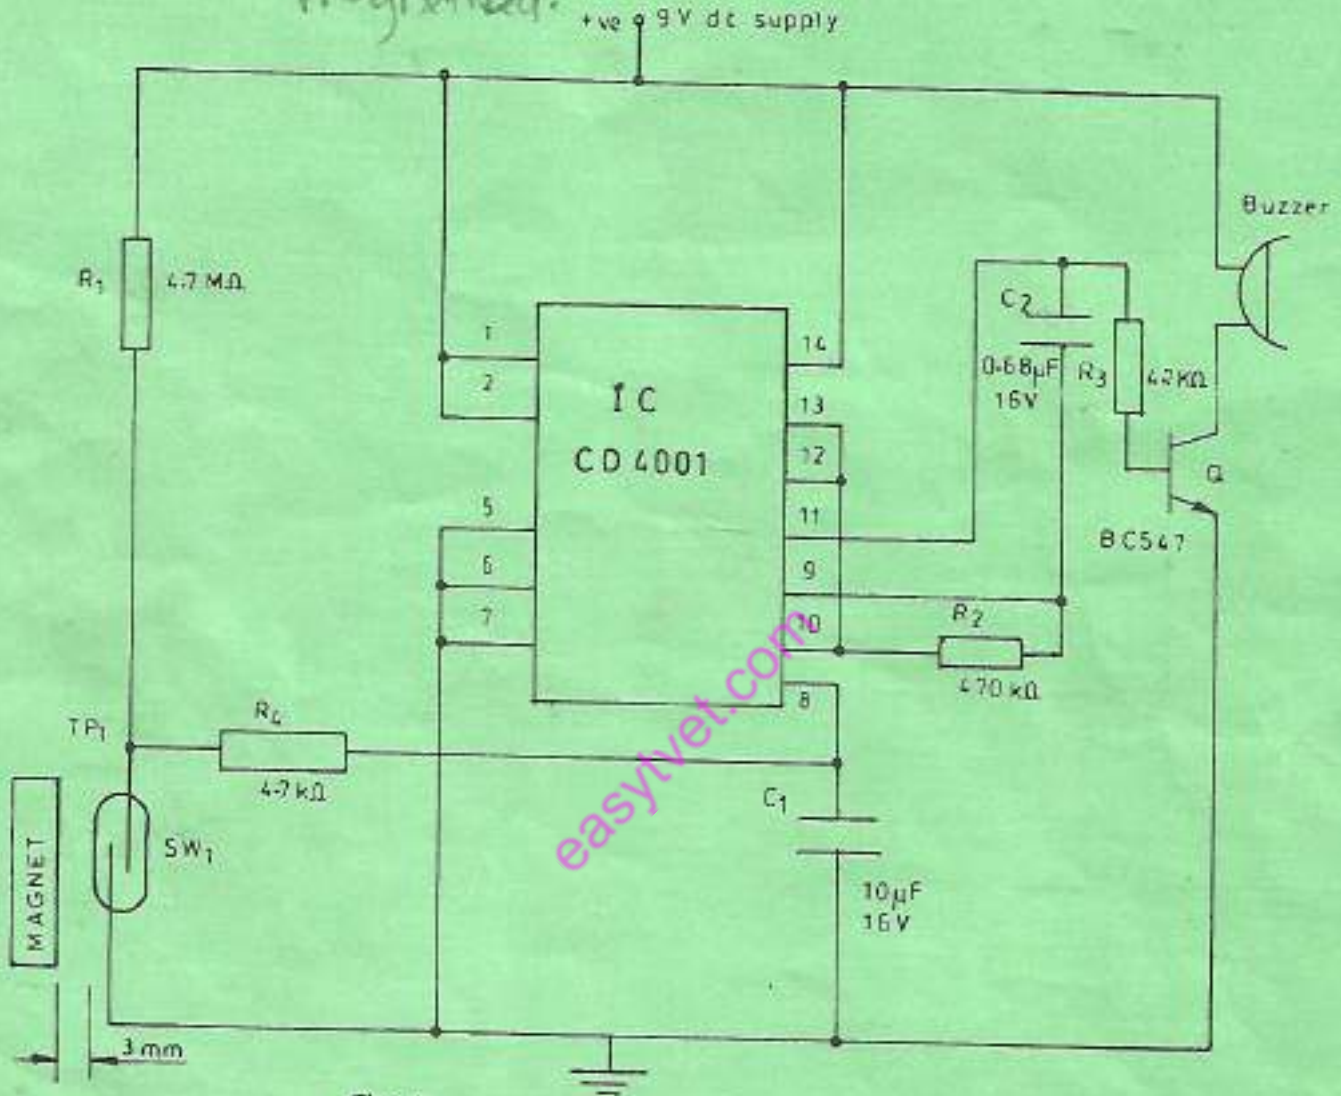

Fig. 4
4. Figure 4 shows a door alarm circuit.